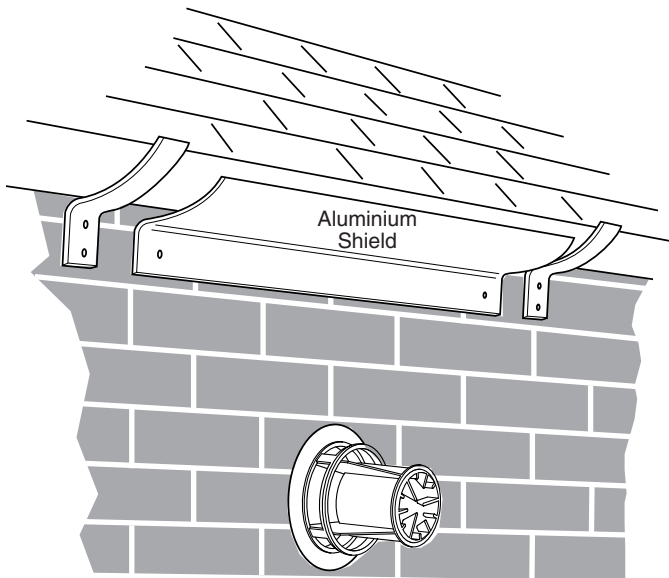

Fig. 10
3. If the terminal is fitted within 1 metre of a plastic gutter, within 500mm of a painted eave or a painted gutter, an aluminium shield of at least 1 metre long should be fitted to the underside of the gutter or painted surface. An air space of 5mm should be left between shield and gutter (Fig. 10).